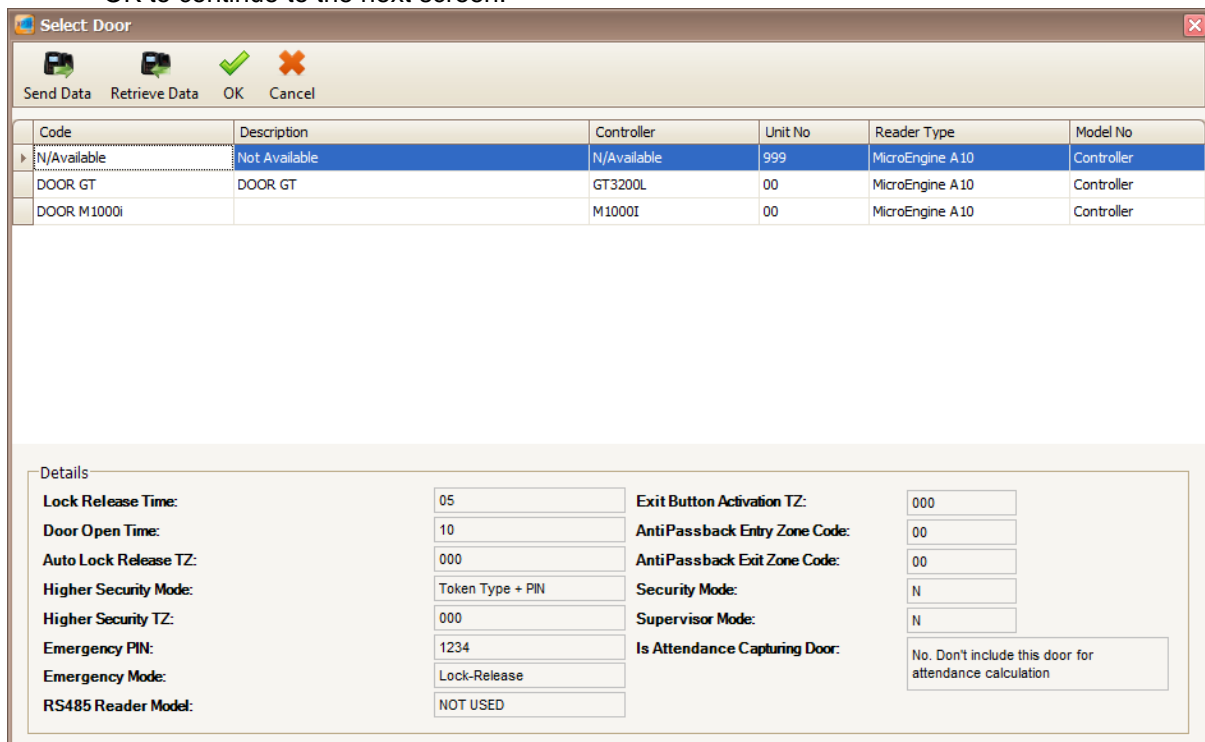

Figure 99 - Select Door
3. Click on  icon to select door. Select door screen will be shown and allow you to select the door that you want (Refer **Figure 99**). Click OK to continue to the next screen.